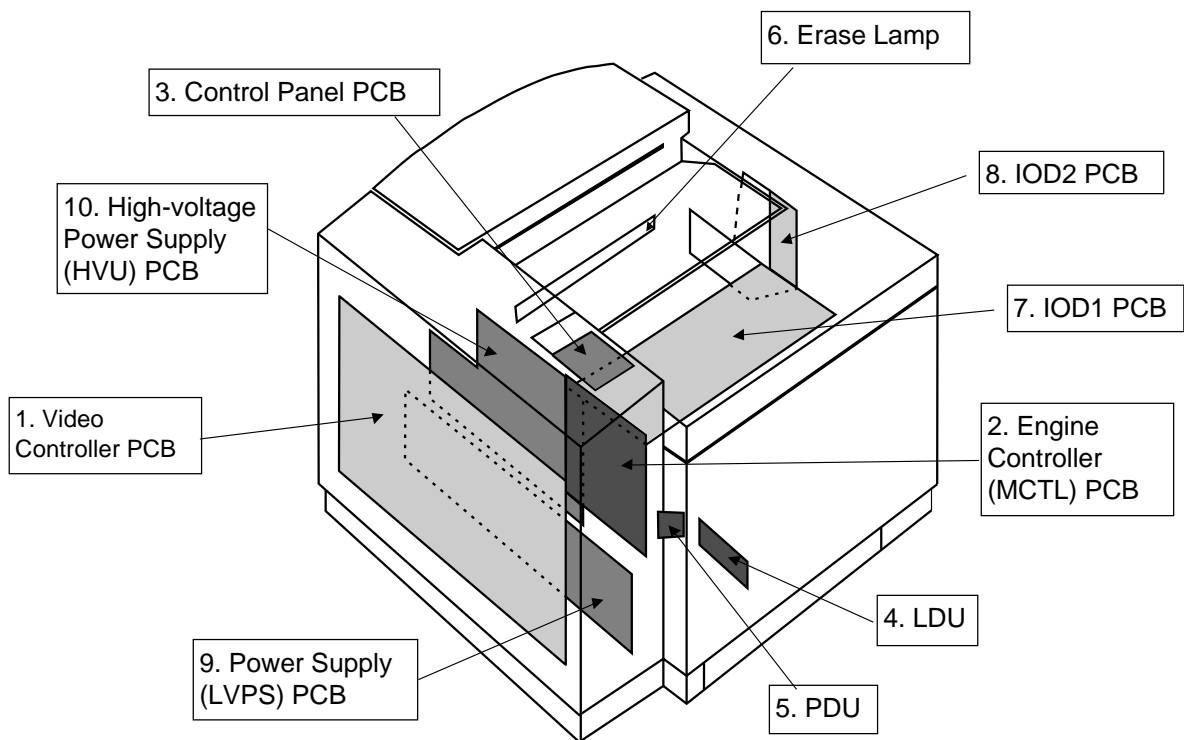

Fig.4-29
(1) Print PCB (Refer to Fig. 4-29.)